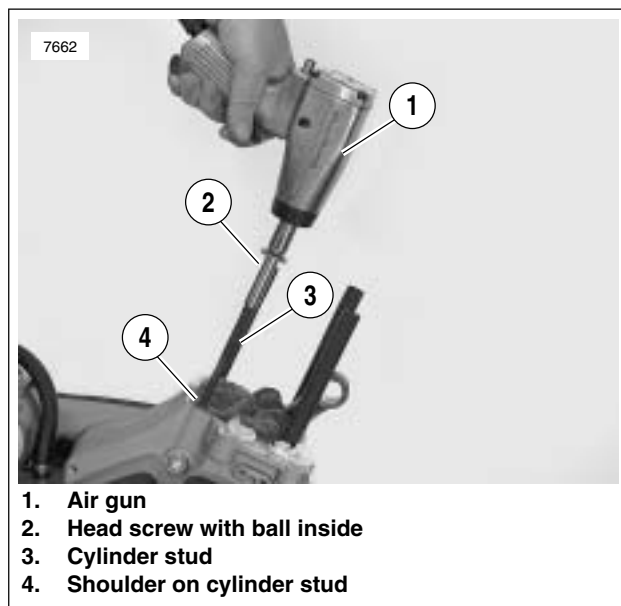

Figure 3-131. Cylinder Studs
15. See Figure 3-131. Install cylinder studs.